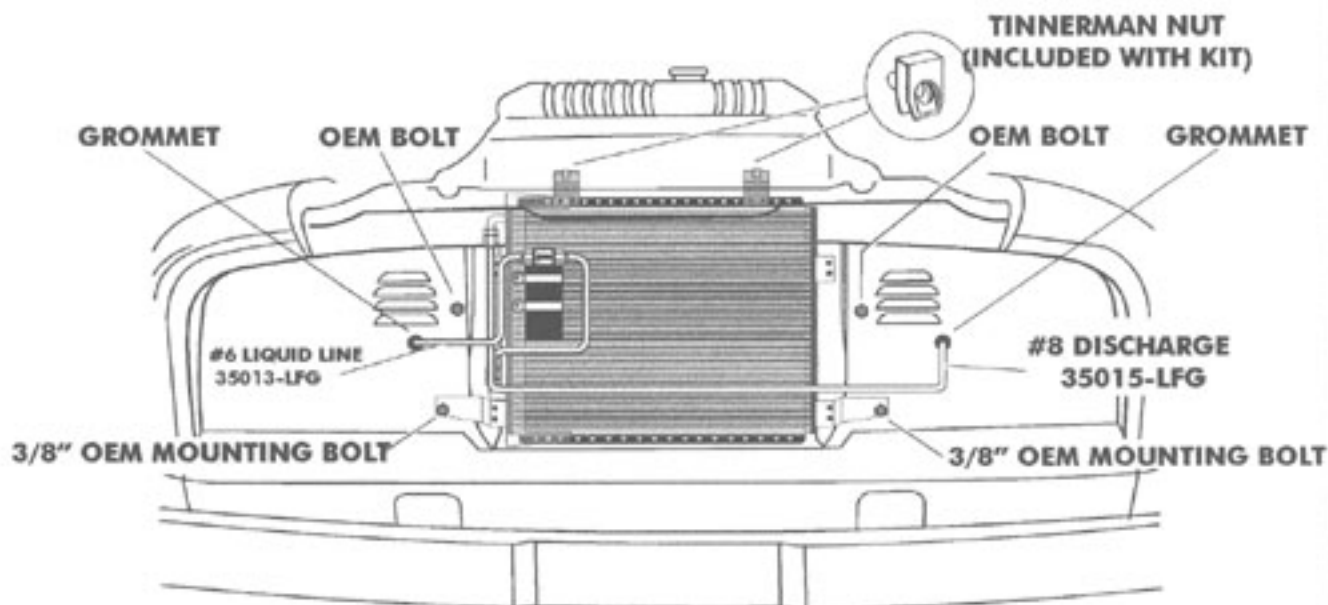
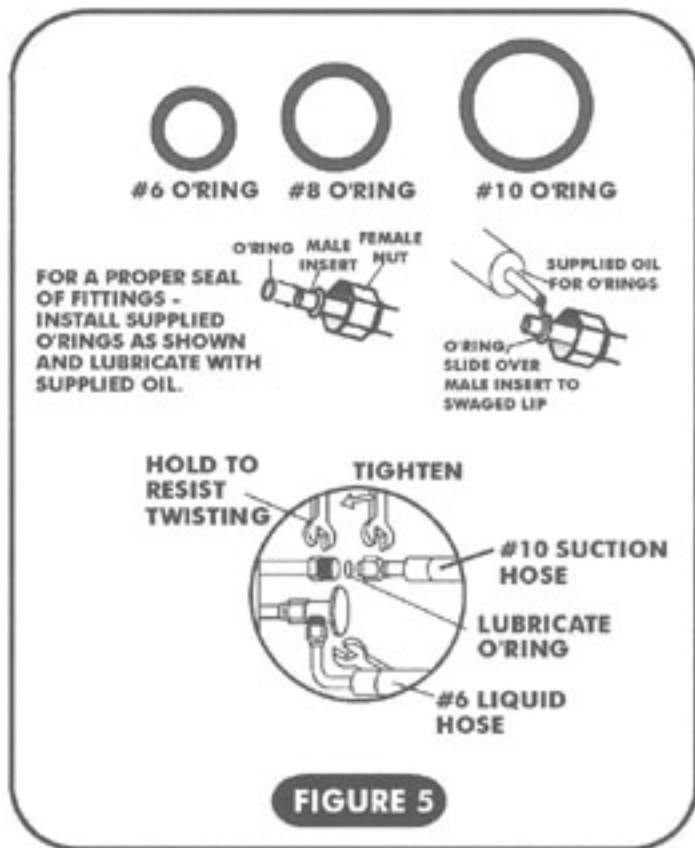

FIGURE 3
FIGURE 5
- 2. LOOSEN THE TWO 3/8" O.E.M. MOUNTING BOLTS AS SHOWN IN FIGURE 3, PAGE 3.
- 3. POSITION CONDENSER ON CORE SUPPORT AS SHOWN IN FIGURE 3, PAGE 3.
- 2. INSTALL THESE GROMMETS IN THE 1-1/4" HOLES (PREVIOUSLY DRILLED) IN THE CORE SUPPORT (SEE FIGURE 3).
- 4. LOCATE A #6 O'RING. LUBRICATE AND INSTALL ON THE #6 LIQUID HARDLINE. SEE FIGURE 3 AND FIGURE 5.
- 5. ROUTE THIS LINE THROUGH THE CORE SUPPORT GROMMET AS SHOWN IN FIGURE 3 AND CONNECT TO DRIER.
- 7. LOCATE A #8 O'RING, LUBRICATE AND INSTALL ON THE #8 DISCHARGE HARDLINE. SEE FIGURE 5.
- 8. ROUTE THIS LINE THROUGH THE CORE SUPPORT GROMMET AS SHOWN IN FIGURE 3, AND CONNECT TO THE CONDENSER. TIGHTEN THIS FITTING.
- 4. LOCATE A #6 O'RING, LUBRICATE AND INSTALL ON THE #6 HARDLINE (SEE FIGURE 5).
- 6. LOCATE THE #8 HARDLINE AND A #8 O'RING. LUBRICATE O'RING, AND INSTALL ON THE #8 DISCHARGE HARDLINE (SEE FIGURE 5).
11. REMOVE THE #6, #8 & #10 HOSES. FOLLOW THE CRIMPING INSTRUCTIONS SUPPLIED WITH YOUR HOSE KIT AND CRIMP ALL HOSE CONNECTIONS. RE-INSTALL ALL HOSES USING O'RINGS FOR THE FINAL CONNECTION. (BE SURE TO LUBRICATE O'RINGS AND TIGHTEN PROPERLY. SEE FIGURE 5, PAGE 6). RE-INSTALL ALL THE A/C HOSES. WRAP THE METAL PORTIONS OF THE #10 FITTING WITH SUPPLIED PRESS TAPE.